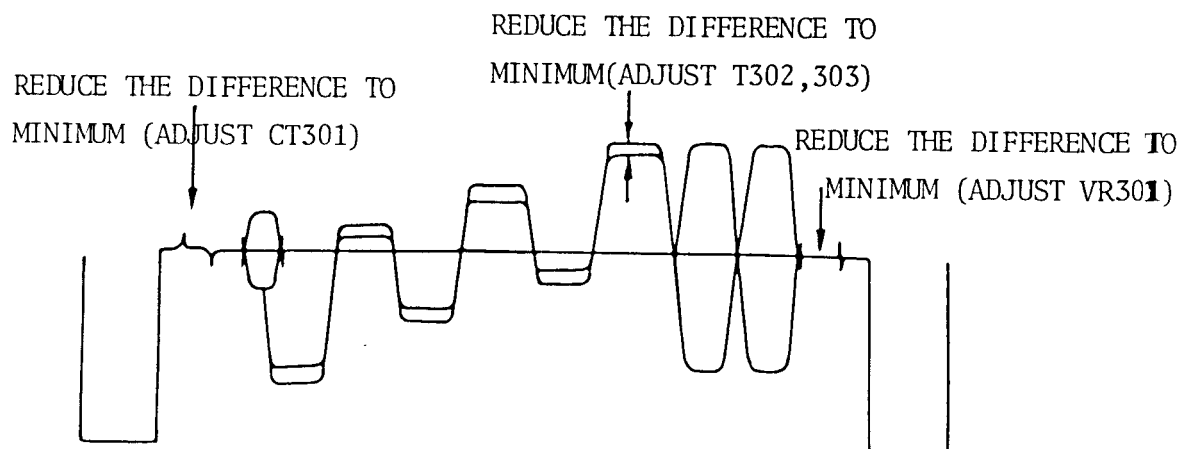

FIG. 11
5. Adjust CT 301 to obtain the waveform as in Fig. 11.
6. Adjust T302, T303 and VR301 to obtain the waveform as in Fig. 11.